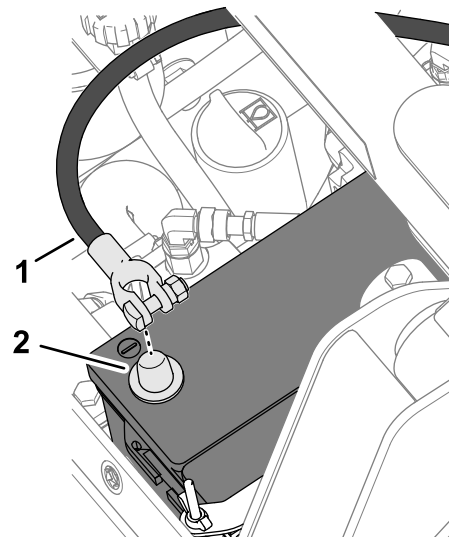

Figure 33
1. Install the negative battery cable onto the battery post (Figure 33), and tighten the tee bolt and nut.